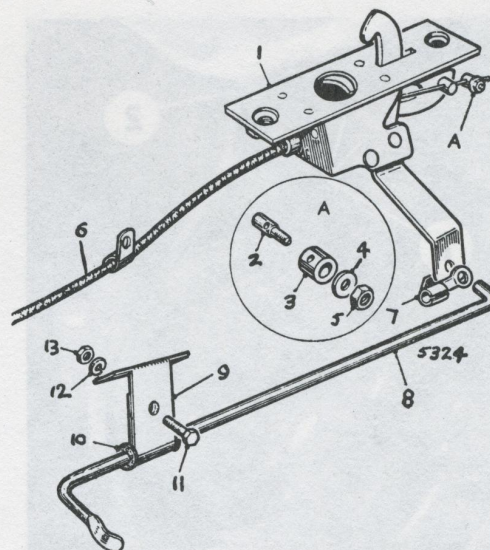

Fig. 28. Components of the bonnet lock (Rapier)
**BONNET LOCK—To remove (Fig. 28)